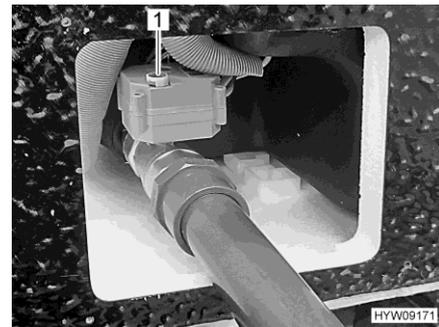

Fig. 159 Handwheel (waste water tap)
- To open the waste water tap, pull handwheel (Fig. 159,1) upwards and turn in an anticlockwise direction as far as it will go. The direction of rotation (O for opening, S for closing) is marked on the handwheel.
- To close the waste water tap, pull handwheel (Fig. 159,1) upwards and turn in a clockwise direction as far as it will go.